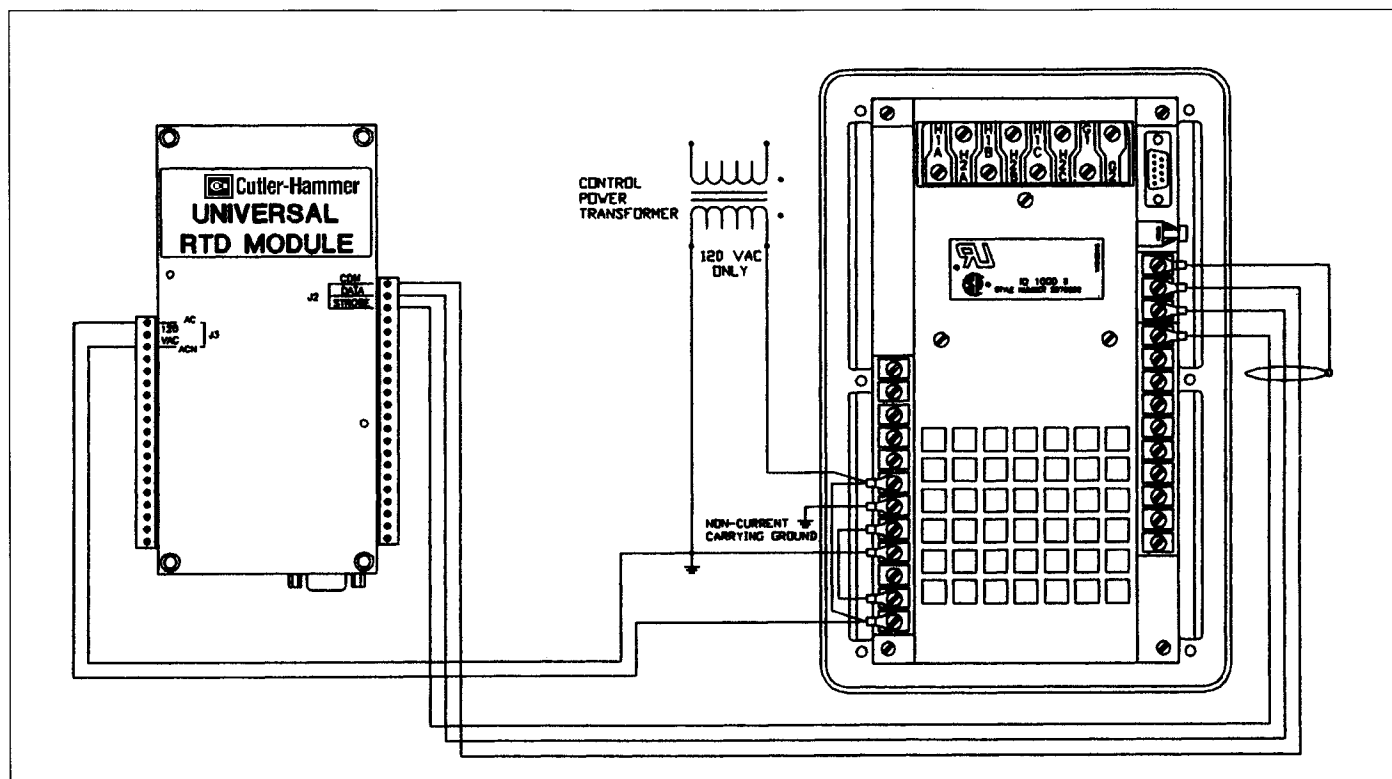

Fig. 5.10 IQ-1000 II to Universal RTD Module Control Wiring
- The Universal RTD Module accepts 120 VAC control power ONLY (see Figure 5.10). If the installation uses 240 VAC control power for the IQ-1000 II, a separate